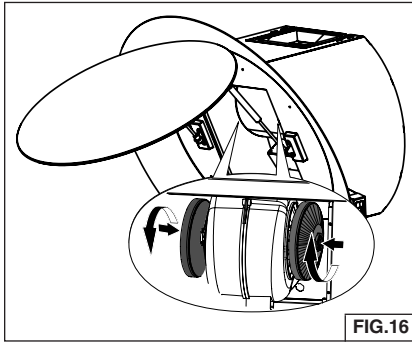

FIG.16
14. Install two charcoal filters onto the blower. Fig. 16.